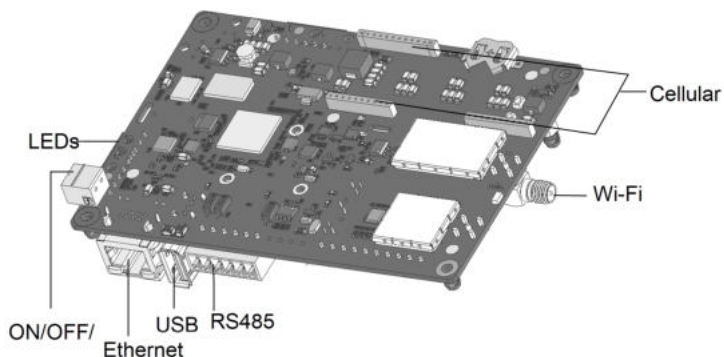

Figure 18: Communication board connectors
- e. Connect the Ethernet connector to the RJ45 port on the communication board (see Figure 18).